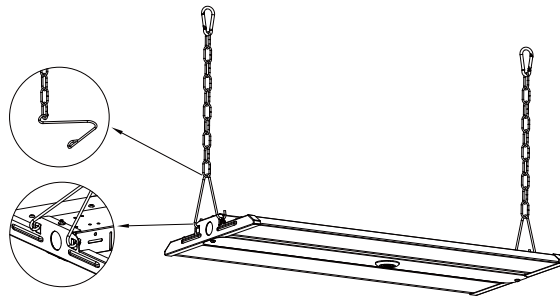

Figure 1
Step1. Hook up the chain; (Figure 1)
Step2. Connect the chain with fixture; (Figure 1)
step3. Fix the chain on the rail, adjust the chain length as per need; (Figure 1)